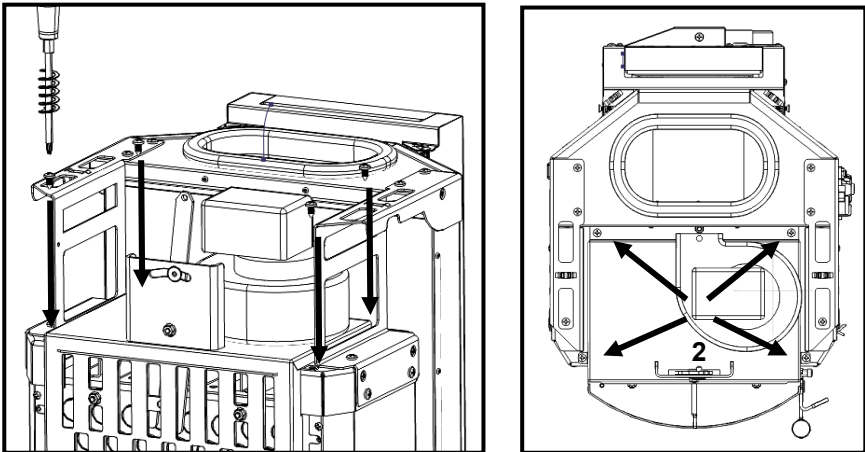

Figure 75 – Attaching the fan to the equipment
- e) Tighten the assembly of Figure 75 on the upper side of the combustion chamber using 4 screws (**A**) in the prepared holes (2).